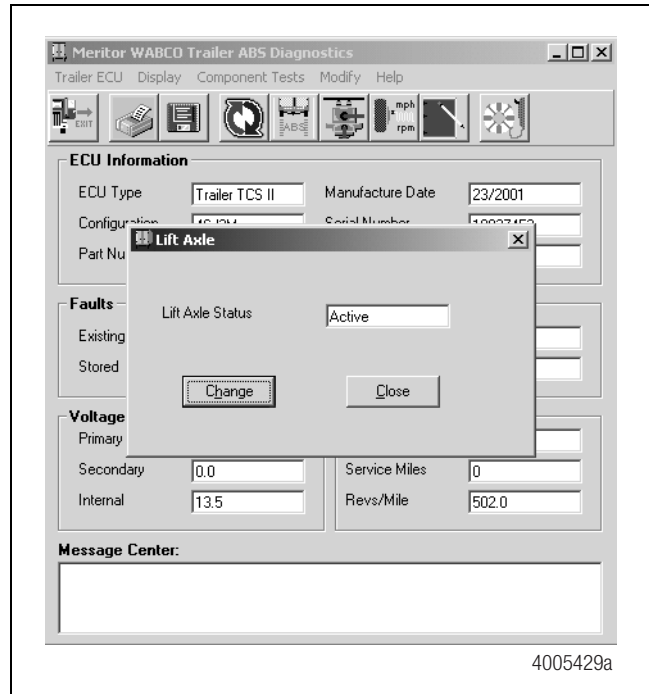

Figure 31
3. To change the default status and activate the lift axle function, click on **Change**. The **Lift Axle Status** will change to **Active**. Figure 31.
- Follow Steps 2 and 3 to display the **Lift Axle Status** screen. Verify the lift axle status display indicates the lift axle function is active, as illustrated in Figure 31.